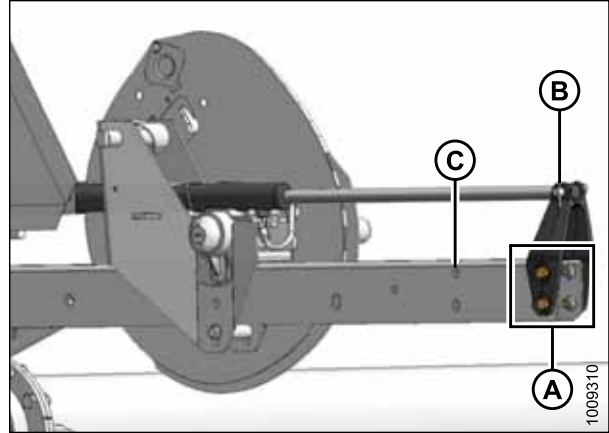

Figure 3.40: Forward Position
1. Remove four bolts (A) securing cylinder bracket (B) to the reel arm.
2. Position reel until bracket (B) lines up with desired position holes (C):
- Forward position, refer to Figure 3.40, page 64